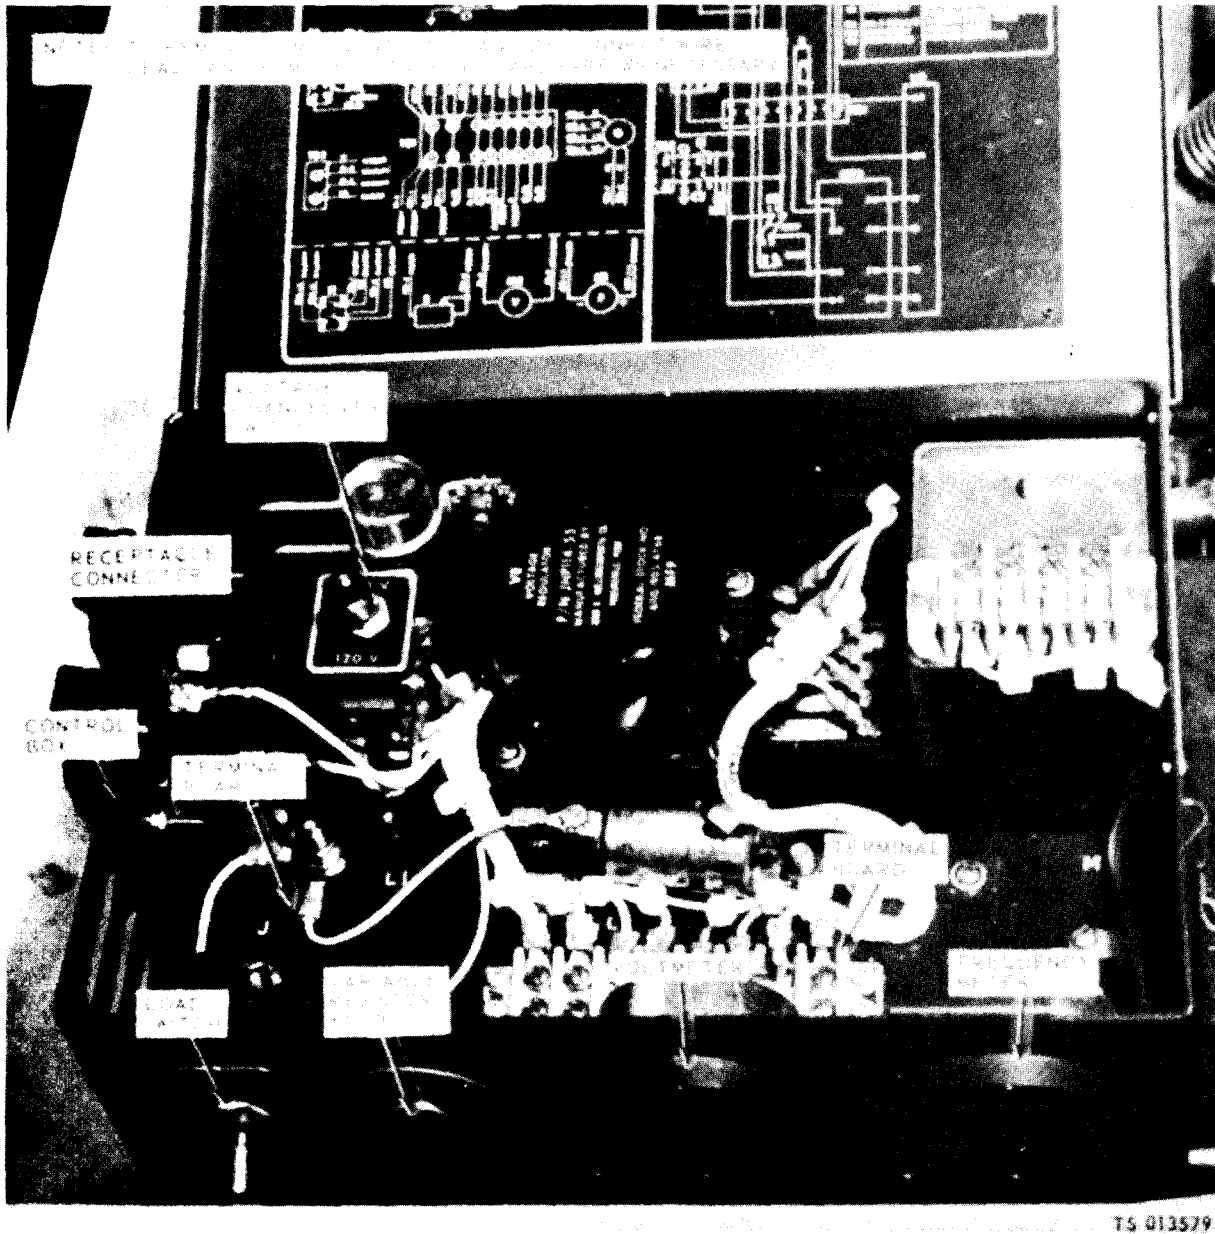

Figure 4-17. Control box components, removal and installation (AC Unit).
b. *Removal.* Refer to figure 4-17 and remove the control box components.
(1) Clean all parts thoroughly.
(2) Inspect the variable resistor knob for cracks and stripped thread.
(3) Inspect the voltmeter and frequency meter for signs of burning, broken or cracked glass, water damage, and other damage.
(4) Inspect the terminal boards for cracks and burned areas.
(5) Inspect the load and voltage changeover toggle switches for proper operation, signs of burning, loose wire contacts, stripped threads, and other damage.
(6) Inspect the receptacle connector for loose connections, signs of burning and other damage.
(7) Replace all defective parts.
d. *Installation.* Refer to figure 4-17 and install the control box components.